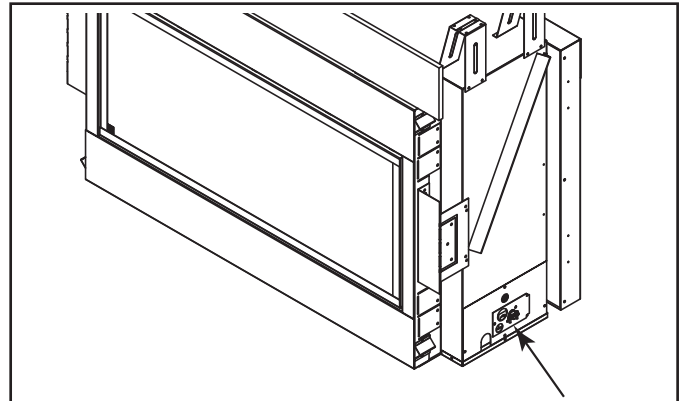

Figure 8.1 Bottom Panel Location
2. Remove the external junction box cover by removing the screw from the side of the outside firebox wall. Junction box was installed at the factory. See Figure 8.1.